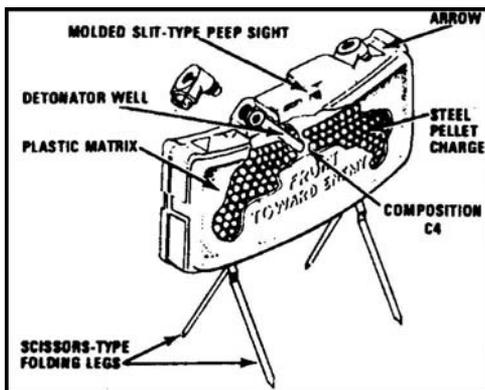

Figure 071-325-4425-5. Placing and aiming the mine
b. Open both pairs of legs to a 45-degree angle with two legs facing to the front and two legs facing to the rear of the mine (figure 071-325-4425-5).